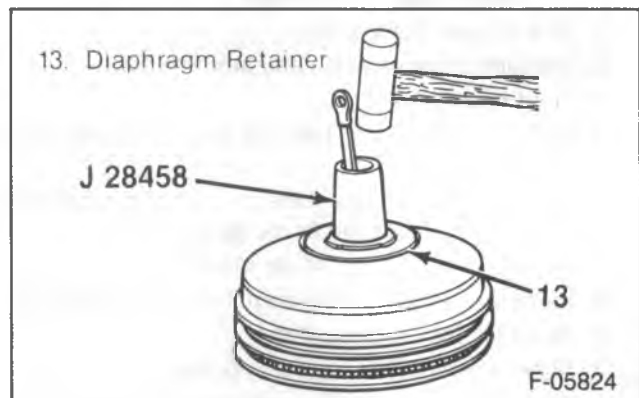
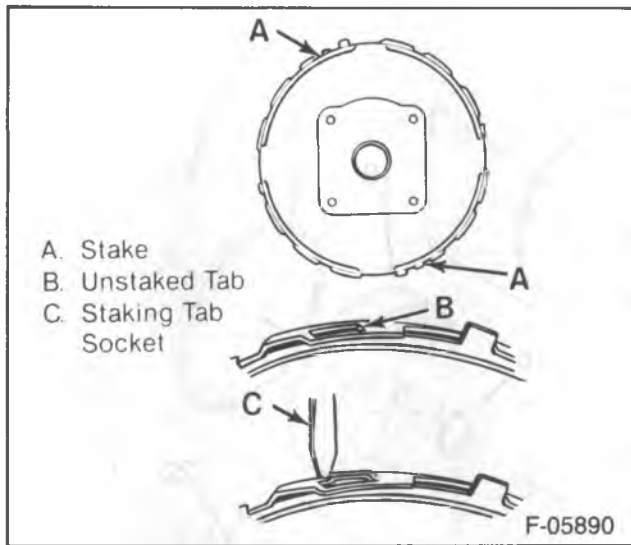
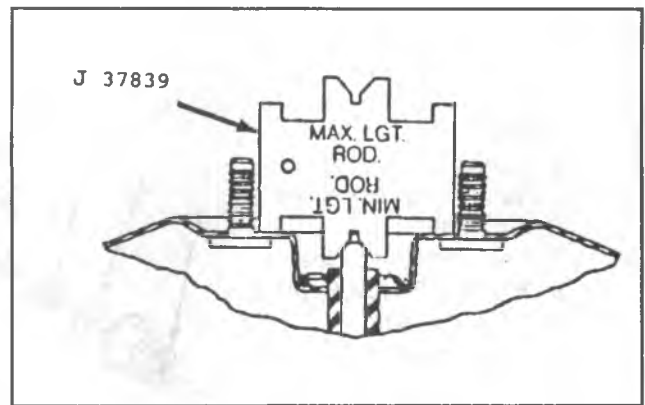

Figure 22—Installing the Diaphragm Retainer
Figure 23—Staking the Tabs
Figure 24—Gaging the Piston Rod
1. Diaphragm (14) into the diaphragm support (15).
3. New diaphragm retainer (13) (figure 22).
4. Filter (12), reaction retainer (11) and piston rod (10).
5. Reaction body retainer (25).
6. Power piston bearing (6) into the rear housing.
7. Power piston group into the rear housing (7).
8. Return spring (9).
- Stake the housing at two tabs 180 degrees apart (figure 23).
10. Grommet (4) and vacuum check valve (3).
11. Front housing seal (5).
12. Silencer (2) and boot (1).
- Gage the piston rod using J 37839 (figure 24). If not within limits, obtain a service adjustable piston rod.
- Stake the housing after locking. Stake two tabs 180 degrees apart (figure 23).
- Lubricate the inside and outside diameters of the grommet (4) and front housing seal (7) with a thin layer of silicone grease.
- 21. Grommet (4) and vacuum check valve (3).
- 22. Front housing seal (7).
- 23. Silencer (2) and boot (1).
- Gage the piston rod (figure 24).